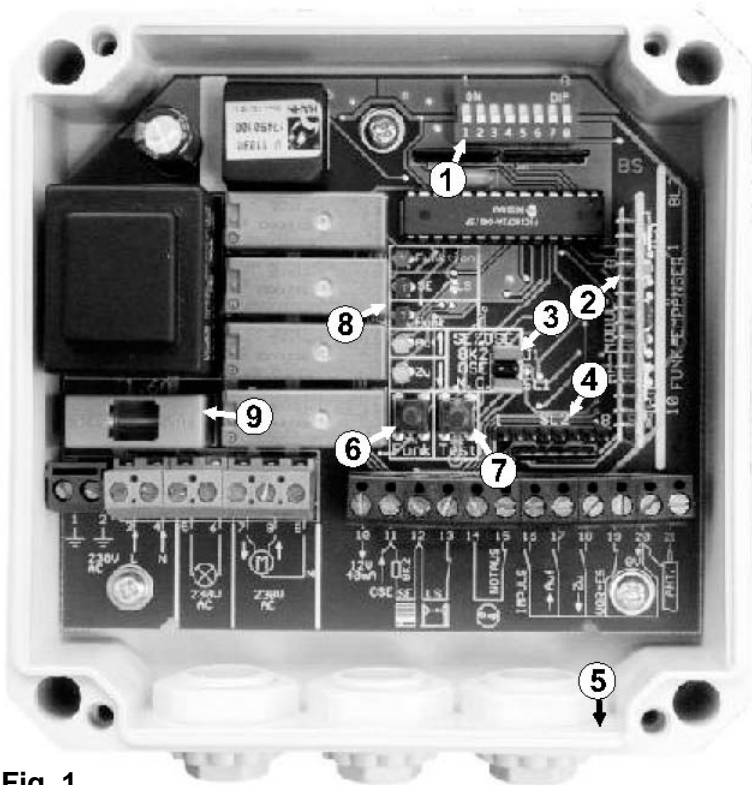

Fig. 1
5.0. Functions of DIP switches (for position, see Fig. 1, P. 4)